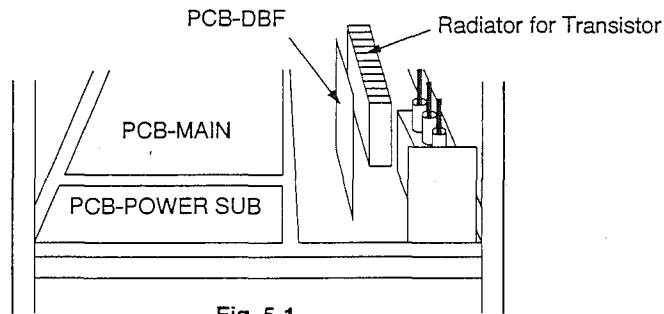

Fig. 5-1
2. Disconnect the Anode Lead Wires from the Flyback Transformer. Contact the Anode Lead Wires with the Radiator for Transistor to discharge the residual charge inside the CRT. (Fig. 5-1)